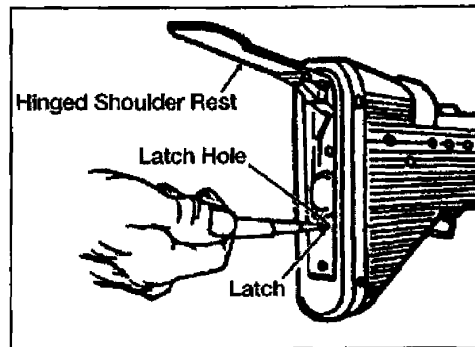

Figure 071-312-3025-1. Stock
- b. Insert the nose of a dummy cartridge into the latch hole (figure 071-312-3025-1).